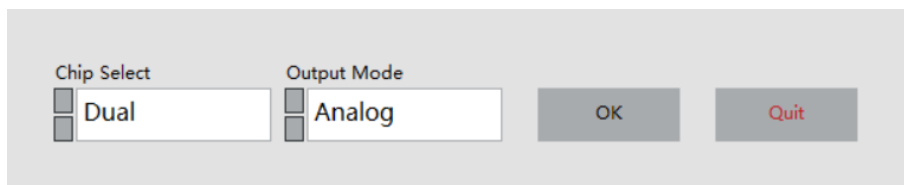
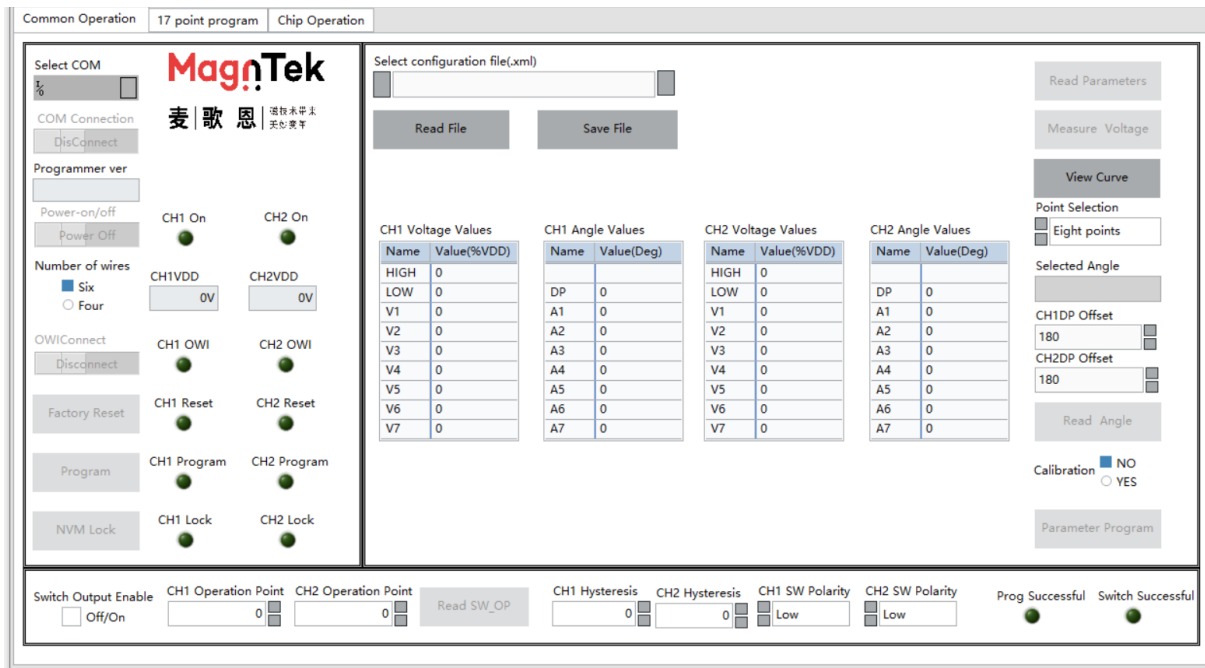

Figure 5.1.1 芯片选择
Figure 5.1.2 Dual chip analog output programming main interface
- 3、 Double-click the "PB600GUI_MT652x.exe" file to open the software, and the screen for selecting the chip mode will pop up (Figure 5.1.1). Here, select the parameters of "dual chip" and "Analog output" and click "OK" to enter the mode programming interface (Figure 5.1.2).